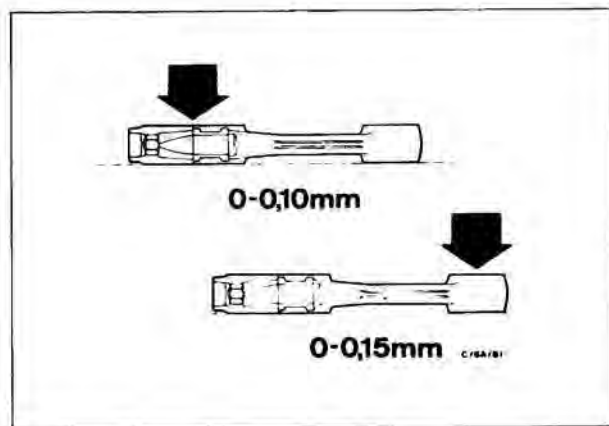

Fig. 220. Maximum deviations from alignment.
2. Measure connecting rod on surface plate, using feeler gauge. For maximum deviations from alignment see Fig. 220.